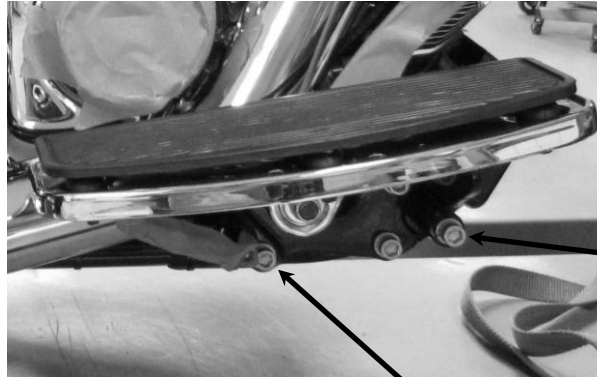

FIGURE 8
24. Insert the supplied floorboard spacer plate between the rear floorboard mount and the frame, then align the dowel pin and reinstall the allen bolt. Tighten to factory specifications. See **FIGURE 8**.
25. Remove the allen bolt from the right front floorboard mount. Place the supplied thick washer between the front floorboard mount and the frame. Reinstall and tighten the allen bolt to factory specifications. See **FIGURE 8**.